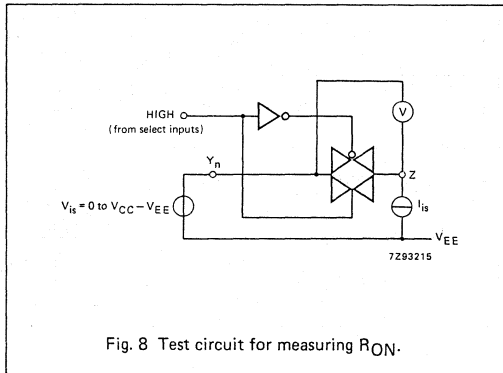

Fig. 8 Test circuit for measuring R_{ON} .
- For test circuit measuring R_{ON} see Fig. 8.